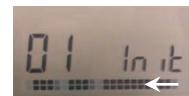

Fig. 2
4. The LED of the activated zone/s should go out. The LED of the next, not activated zone can blink nevertheless. During the thermostat RF transmission you can see on the display 2 lines of squares running. (see Fig. 2)